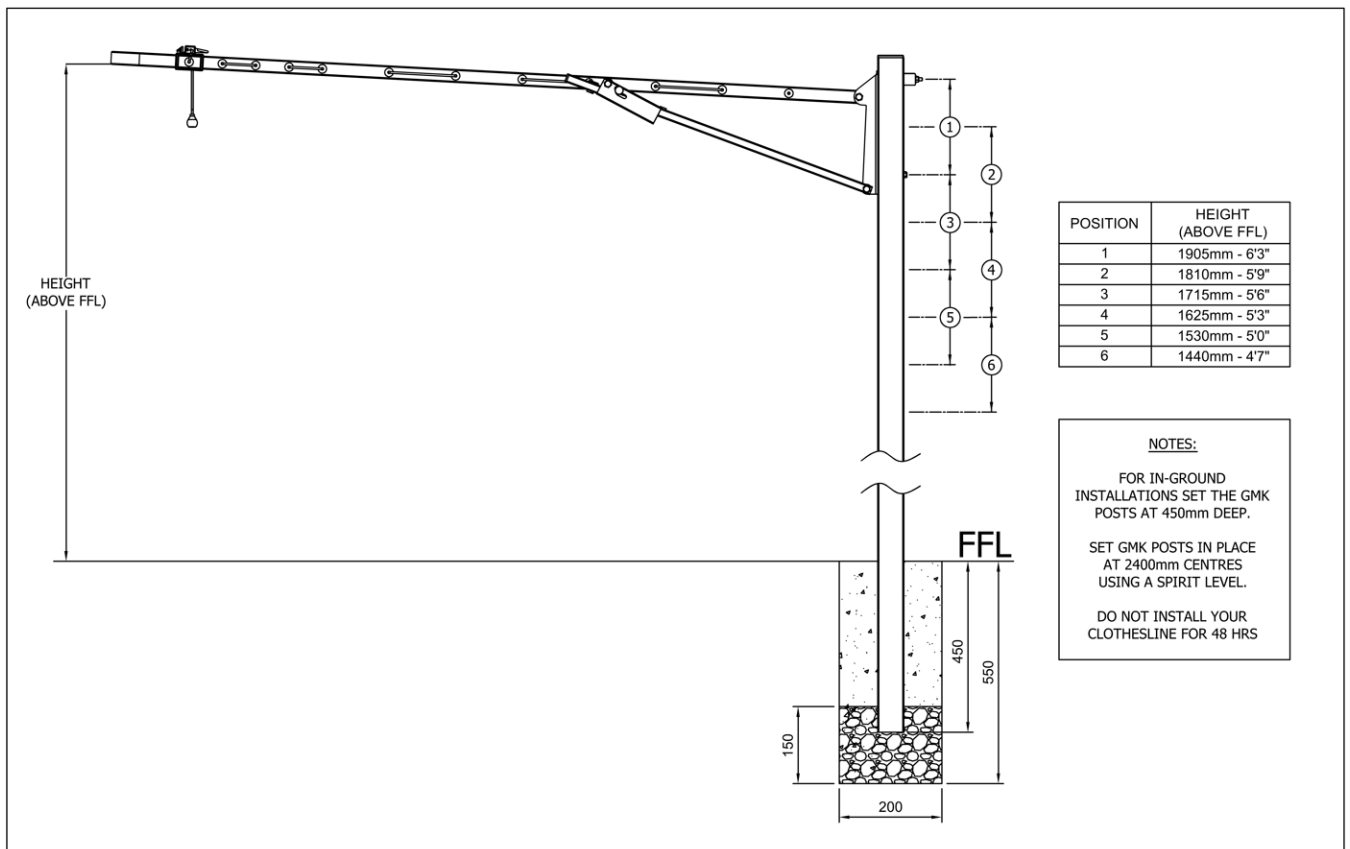

Fig 8. GMK in-ground installation.
3. GMK has multiple height settings. Pick the one that best suits the end user, (50mm above head height is recommended). See Figs 8 and 9 for recommended installation heights.
- Install the GMK as per the below image (Fig 8) at 1,300mm centres.